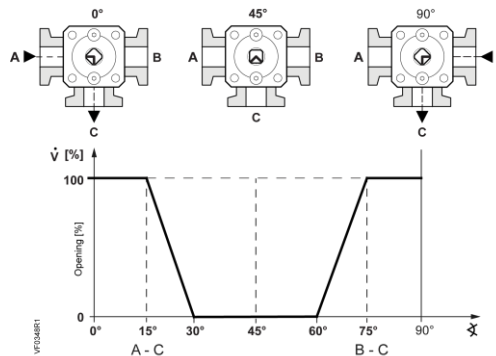
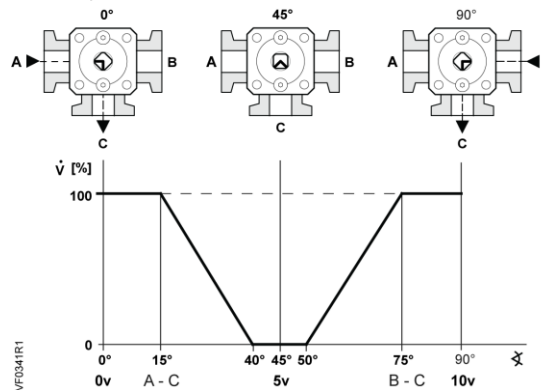

Figure 2. 6-way Ball Valve Characteristic Curve, 1/2-Inch Valve.
Figure 3. 6-way Ball Valve Characteristic Curve, 3/4- and 1-inch Valves.
The 6-way ball valve enables control between two sources (A and B) through positions 0° and 90° and is closed at 45°. Both sources supply the same coil (C). See Figure 2 and Figure 3.
The 6-way ball valve is combined with the GDE161.1P modulating fail-in-place actuator. The market standard operation is shown in Figure 2 and Figure 3. A control signal of 0V provides full flow from Source A, 5V is both Source A and Source B closed, and 10V provides full flow from Source B. Both Sources A and B have a linear flow characteristic. The control range for modulating the flow of Source A is with a control signal between 0V and 3.3V for the 1/2-inch valves and between 0V and 4.5V for the 3/4-inch and 1-inch valves. The control range for modulating the flow of Source B is with a control signal between 6.6V and 10V for the 1/2-inch valves and between 5.5V and 10V for the 3/4-inch and 1-inch valves.